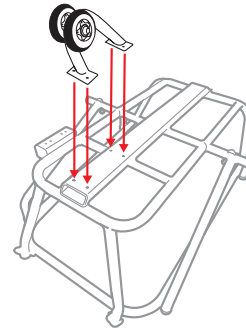

Figure 1
1. With the Frame Assembly positioned upside down, align the Front Wheel with the four holes on the frame so that the wheel faces the front of the frame (Figure 1).